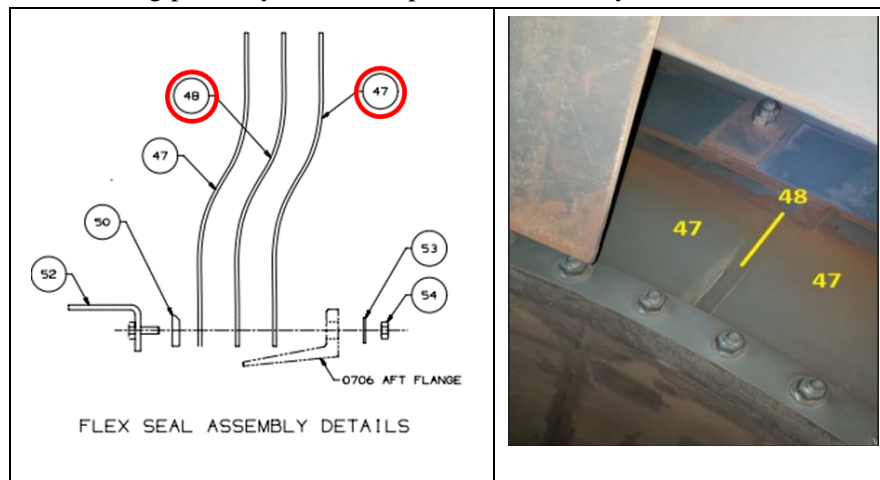

Figure.15: Visual inspection of the first two (2) layers of flex seals
Visually inspect the first two (2) layers of flex seals #47 and #48 circled in red in the drawing Figure.15. These inspections should be performed from inside the exhaust checking for any of the indicators listed below.